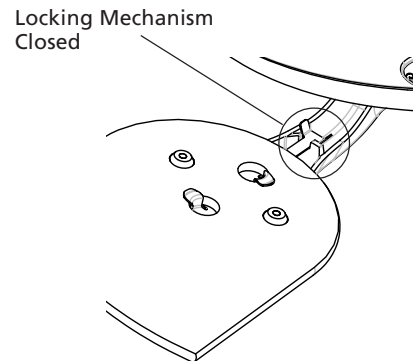

Figure 7b - Installing the blade
2. Align the holes in the blade with the blade iron as shown in Figure 7b.